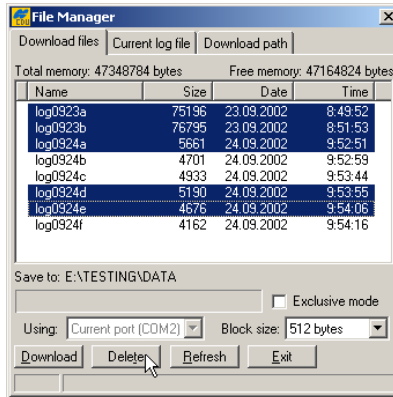

Figure 5-14. Delete Files
3. Click **File ▶ File Manager** and select the file(s) to delete on the *Download files* tab (Figure 5-14 on page 5-9).
4. Click **Delete** (Figure 5-14 on page 5-9).